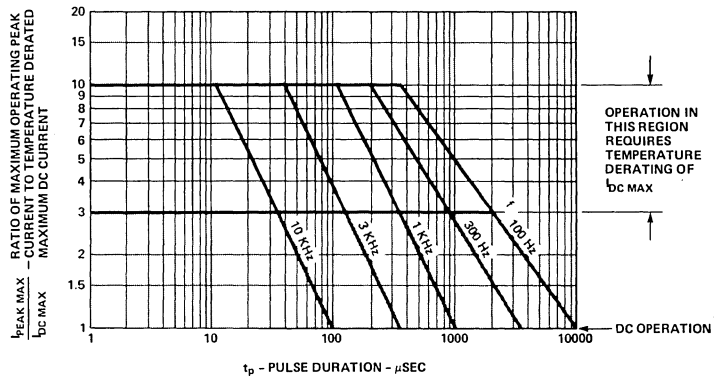

Figure 1. Maximum Tolerable Peak Current vs. Pulse Duration.
Figure 1 relates refresh rate, f , and pulse duration, t_P , to a ratio which defines the maximum desirable operating peak current as a function of derated dc current, $I_{P\ MAX}/I_{DC\ MAX}$. To most effectively utilize Figure 1, perform the following steps:
- Enter Figure 1 at the calculated t_P . Move vertically to the refresh rate line and then record the corresponding value of $I_{P\ MAX}/I_{DC\ MAX}$.